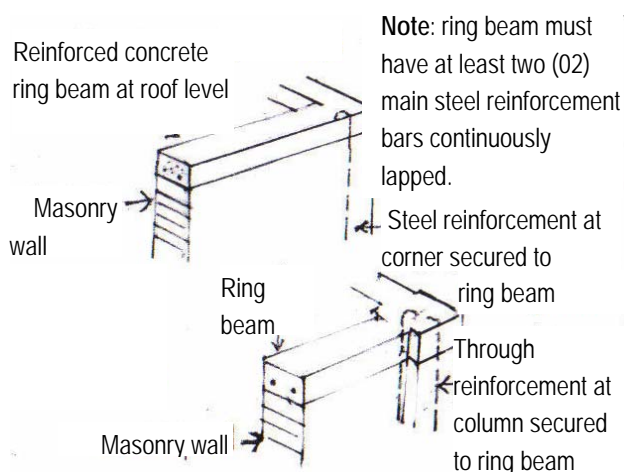

Fig 28- **Securing walls to ring beam**
- Made sure that the ring RCC beams are secured to the supporting masonry walls or columns if columns are used (See fig. 28)